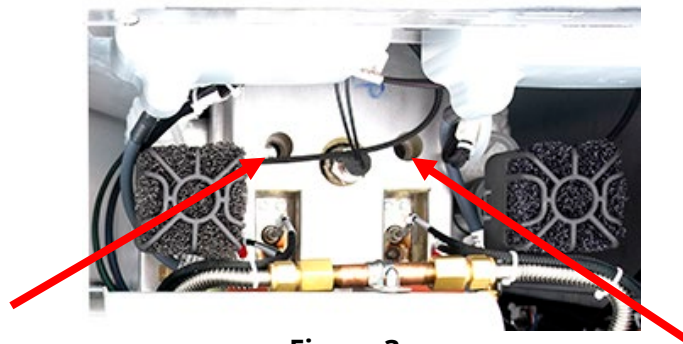

Figure 3
7. After the burners have been lit for at least 90 seconds, observe the flames through the burner viewing ports located on each side of the frypot (see Figure 3). The optimum burn is a bright orange-red glow.